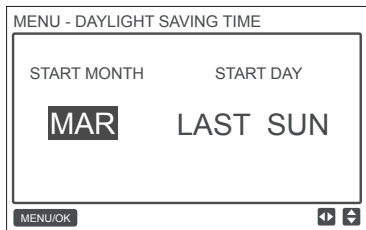

Fig. 57 — Setting the start time for daylight saving
**SET THE START TIME FOR DAYLIGHT SAVING** — Use the cursor to choose **START**, and press **MENU/OK** to enter this setting. Press the **LEFT**  $\blacktriangleleft$  or **RIGHT**  $\blacktriangleright$  button to move the cursor, and press **TEMP UP**  $\blacktriangle$  or **TEMP DOWN**  $\blacktriangledown$  to set the start time for daylight saving, as shown in Fig. 57